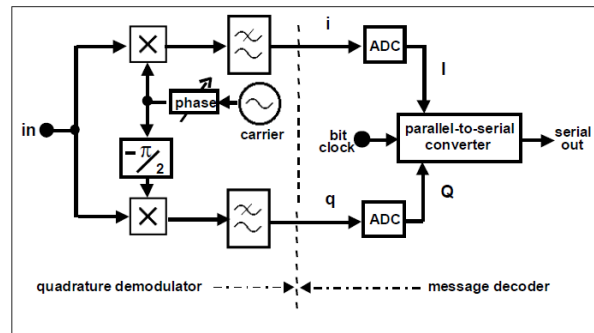
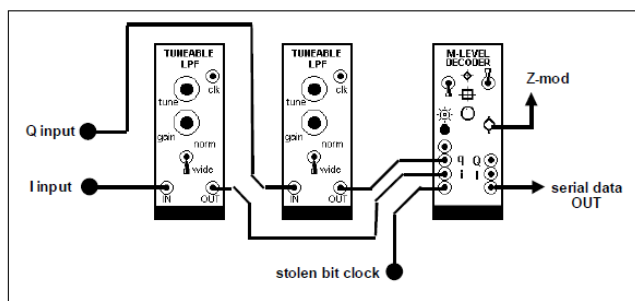

Figure 2: an m-QAM demodulator
Figure 5: decoder - switched for 4-QAM
A quadrature demodulator is illustrated in Figure 2. Remember the input signal is a pair of DSBSC, added in phase quadrature. It is the purpose of the demodulator to recover their individual messages, which are presented to the two inputs of the decoder. If the DSBSC phasing at the transmitter is ideally in quadrature, then the single phase adjustment shown is sufficient to separate the messages of the two signals.
Figure 5 is a model of the m-QAM decoder shown in block diagram form in Figure 2. Its operation will now be examined.
- T8.** Patch up the decoding model of Figure 5. Set the front panel switches to decode 4-QAM. Initially, at least, set both the TUNEABLE LPF modules to maximum bandwidth.